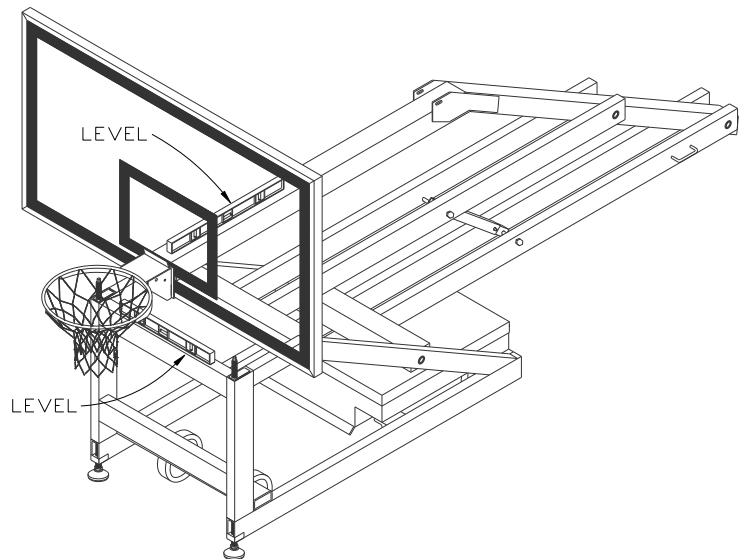

Figure 4
6. Lower the *Foot Pads* (B) (raising the front of the base) until the extension arm is level front to back and the *Portable Base* (A) is level left to right. See figure 4.